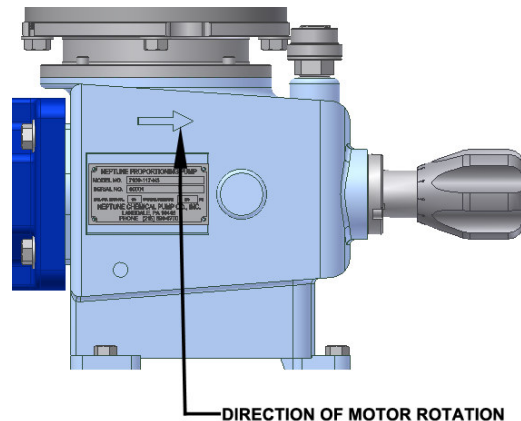

FIGURE 1
1.0.6 The electrical supply to the pump must match the motor nameplate characteristics. The motor rotation is counter clockwise when viewed from the top of the motor or looking down on the pump. An arrow mark on the gearbox shows the rotation (See Figure 1)
Please note Figure 1, indicating the correct rotation. Operation with the incorrect rotation will damage the pump and motor.